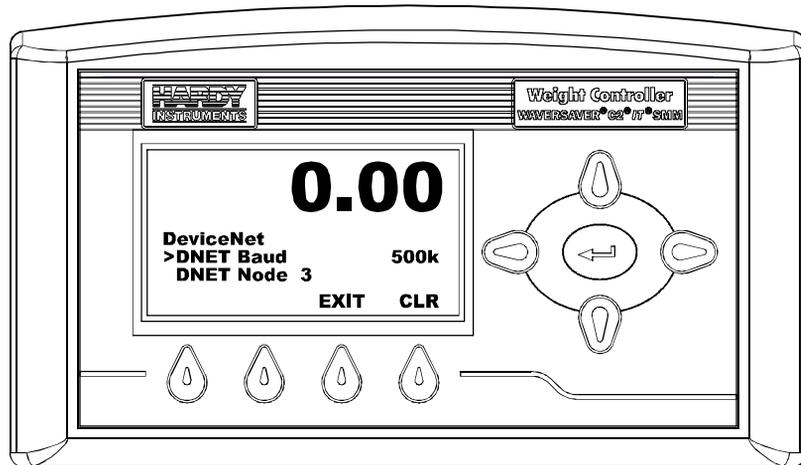

FIG. 118 DEVICENET MENU/SELECTING BAUD
Step 5. Press the Enter button. The DeviceNet Menu appears with cursor in front of DNET Baud Rate. (See Fig. 118) The present Baud Rate setting is displayed.